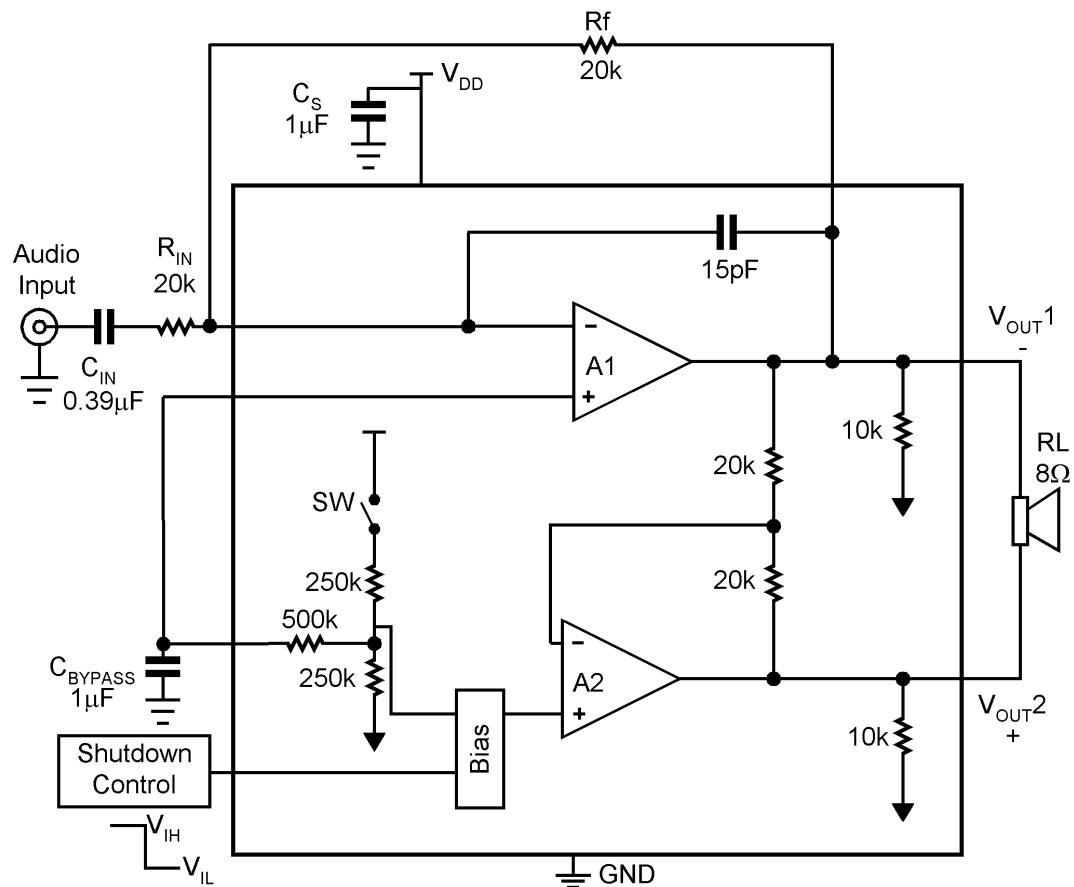

FIGURE 1. Typical Audio Amplifier Application Circuit
■ PSRR at 217Hz, V _{DD} = 5V (Fig. 1)	62dB(typ.)
The following specifications apply for the circuit shown in Figure 1 unless otherwise specified. Limits apply for $T_A = 25^\circ C$.
The following specifications apply for the circuit shown in Figure 1 unless otherwise specified. Limits apply for $T_A = 25^\circ C$. (Continued)
Note 14: PSRR is a function of system gain. Specifications apply to the circuit in Figure 1 where $A_V = 2$. Higher system gains will reduce PSRR value by the amount of gain increase. A system gain of 10 represents a gain increase of 14dB. PSRR will be reduced by 14dB and applies to all operating voltages.
External Components Description (Figure 1)